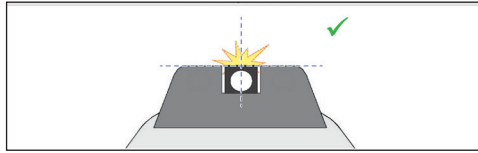
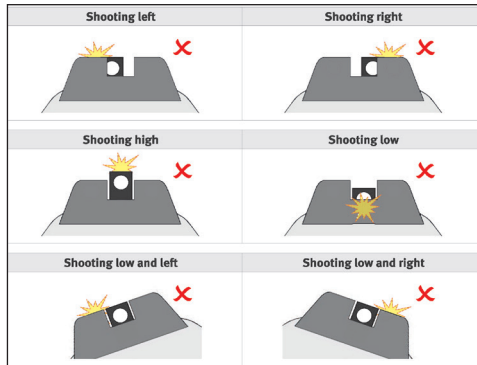

Figure 12 – Correct sight alignment
Figure 13 – Common sight alignment errors
The VP9CC is equipped with a traditional sighting system. The sights are adjustable for windage by drifting. Sights are installed and aligned by HK technicians at the factory. Figure 12 shows correct sight alignment, the VP9CC series is a center hold. Figure 13 shows common sight errors.
1. Acquire the proper sight alignment and sight picture (see Figure 12).